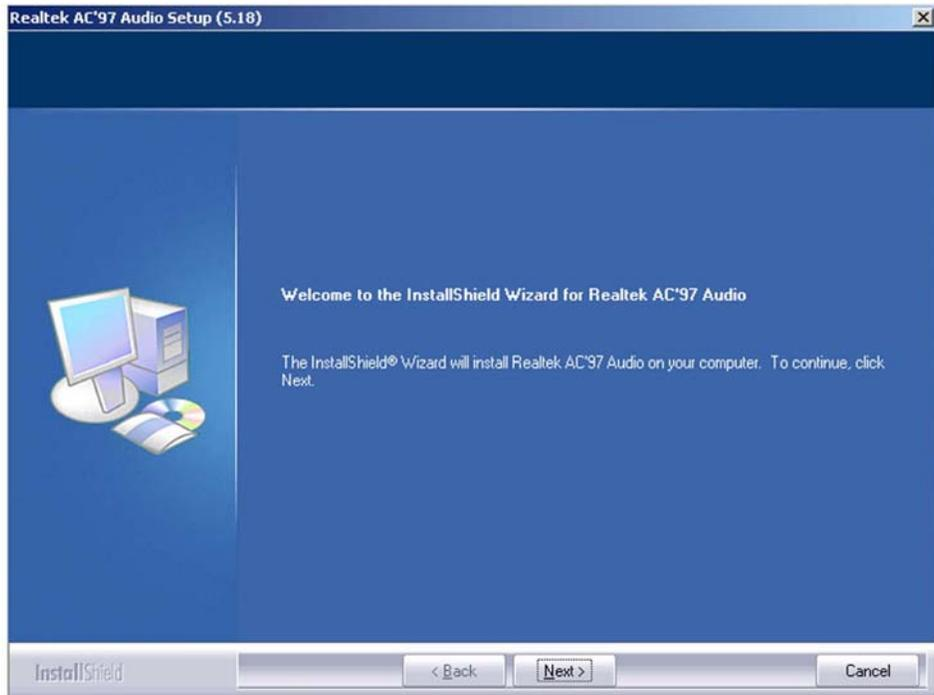
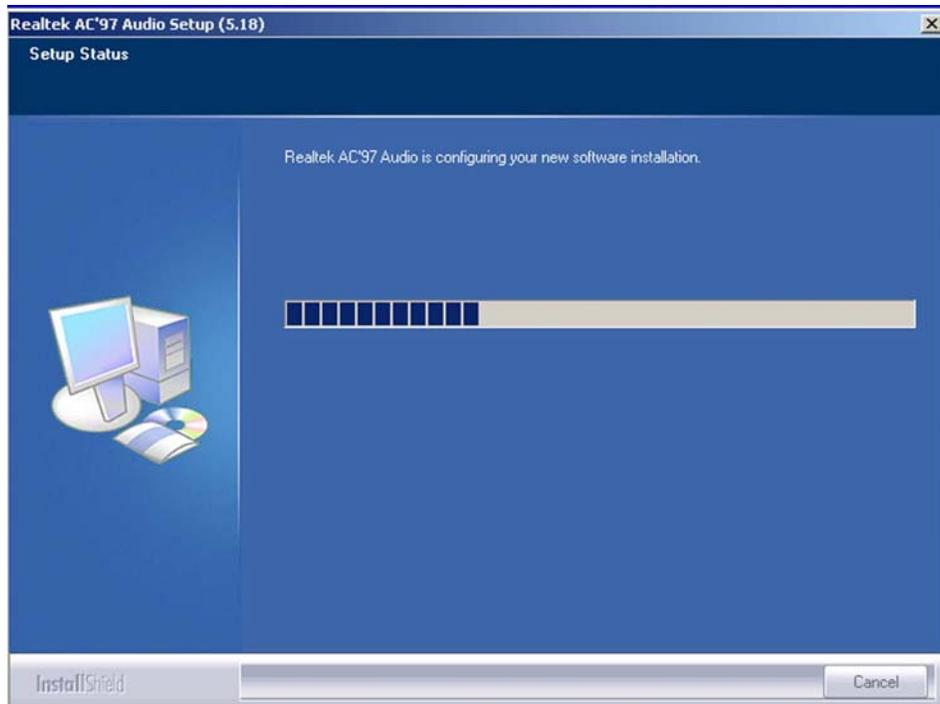

Figure 7-14: Audio Driver Welcome Screen
Figure 7-15: Audio Driver Software Configuration
- Step 6:** The welcome screen shown in **Figure 7-14** appears. Click the “**NEXT**” button to continue the installation. The install shield starts to configure the new software as shown in **Figure 7-15**.